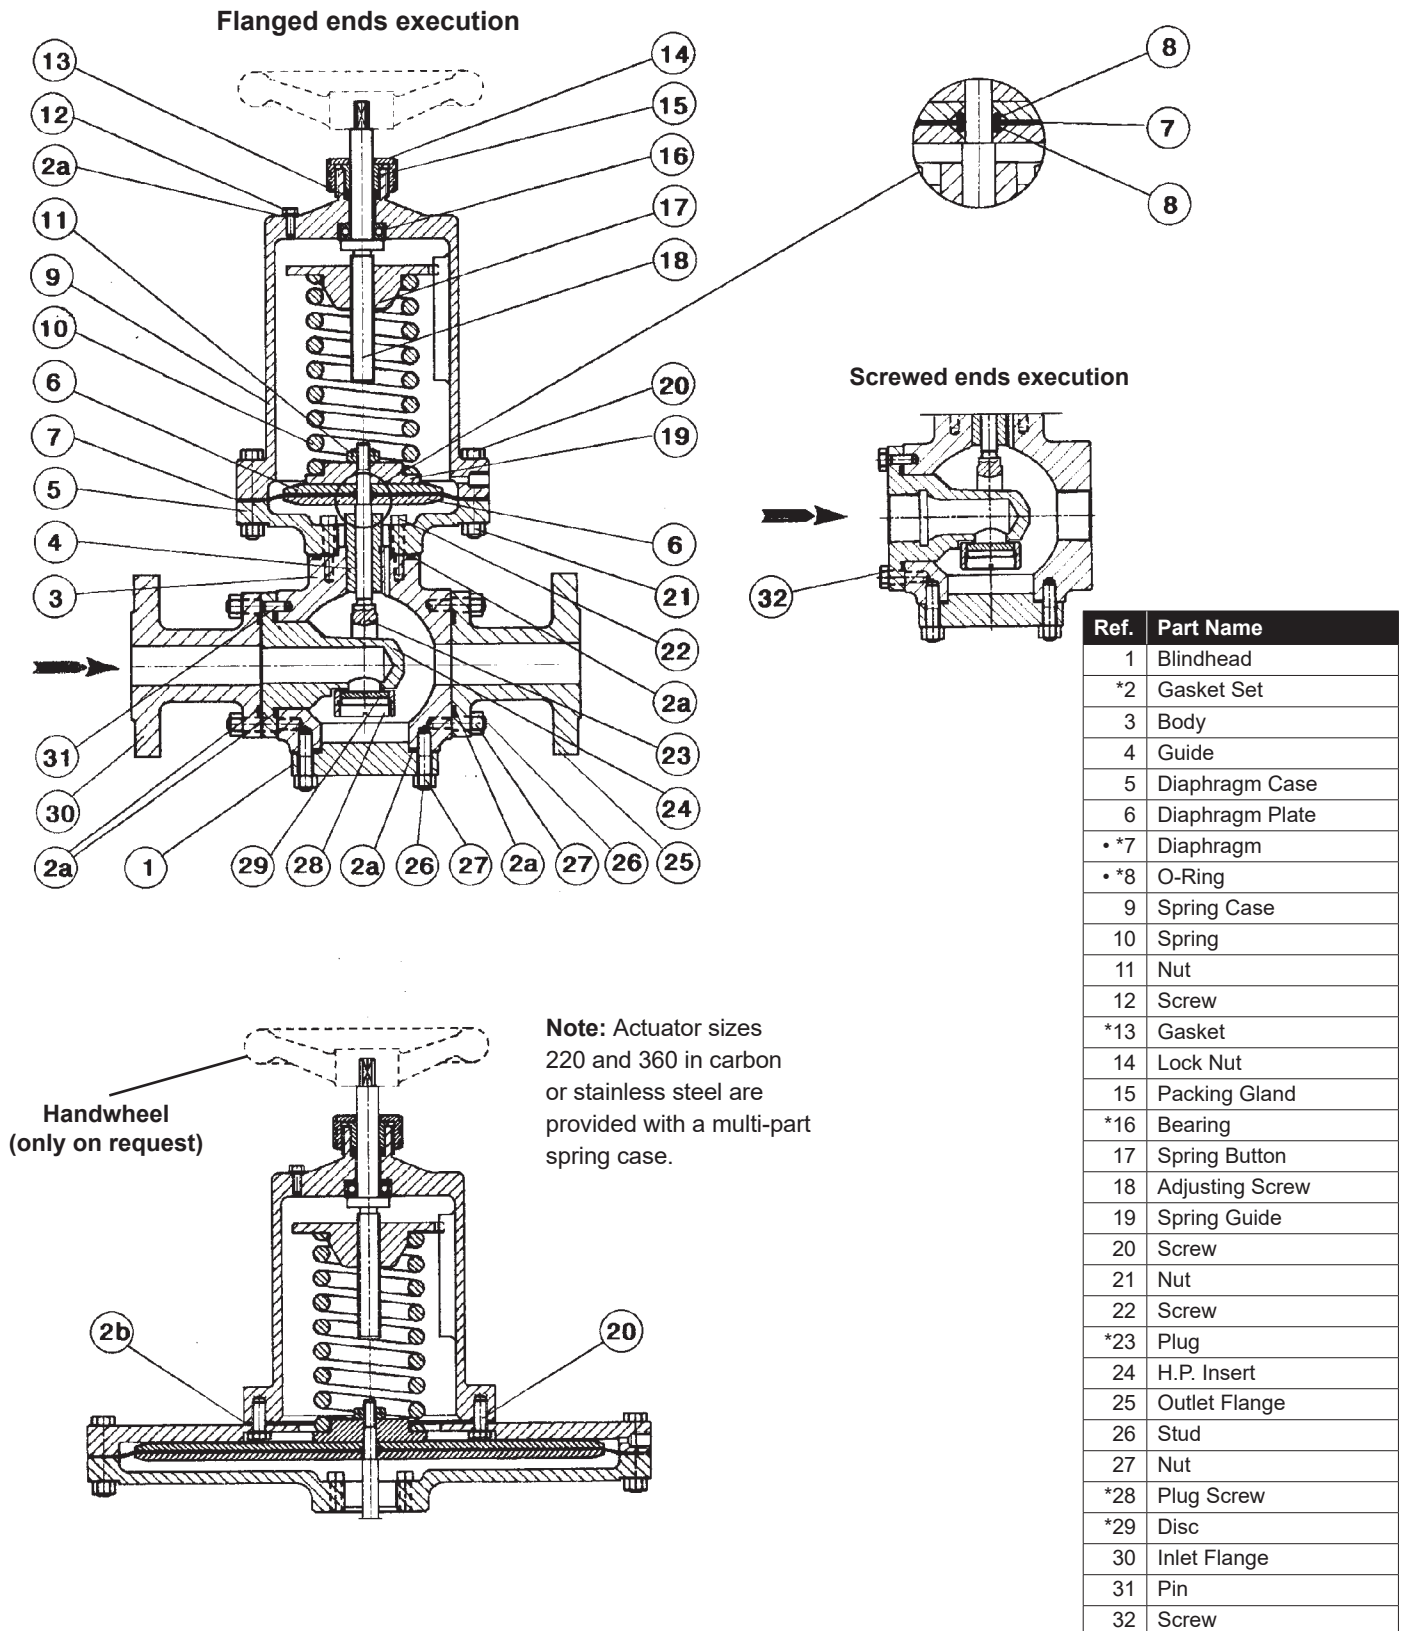

Fig. 10
**Group 1: 172-50 Single Diaphragm (Fig.10)**